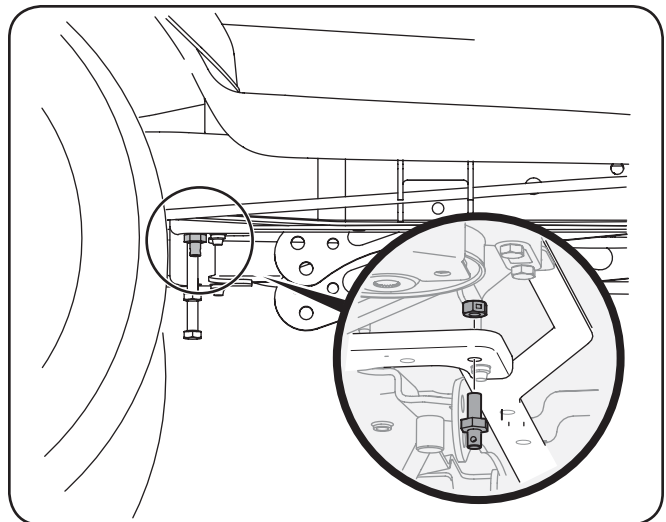

Figure 3-2
2. Fasten the two pins and hex nuts, removed in step 1, to the frame of the rider. See Fig. 3-2